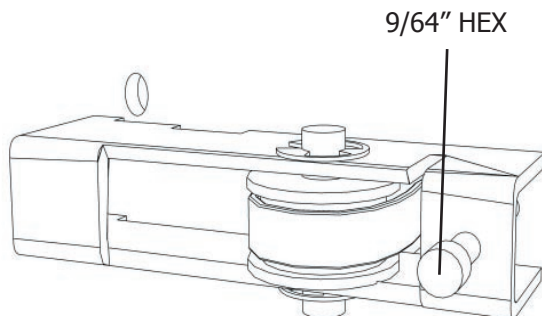

Fig. 1 - "Y" axis belt tensioner
- 1) On the left side loosen the "Y" axis drive belt tensioner with a 9/64" HEX wrench. See Fig. 1